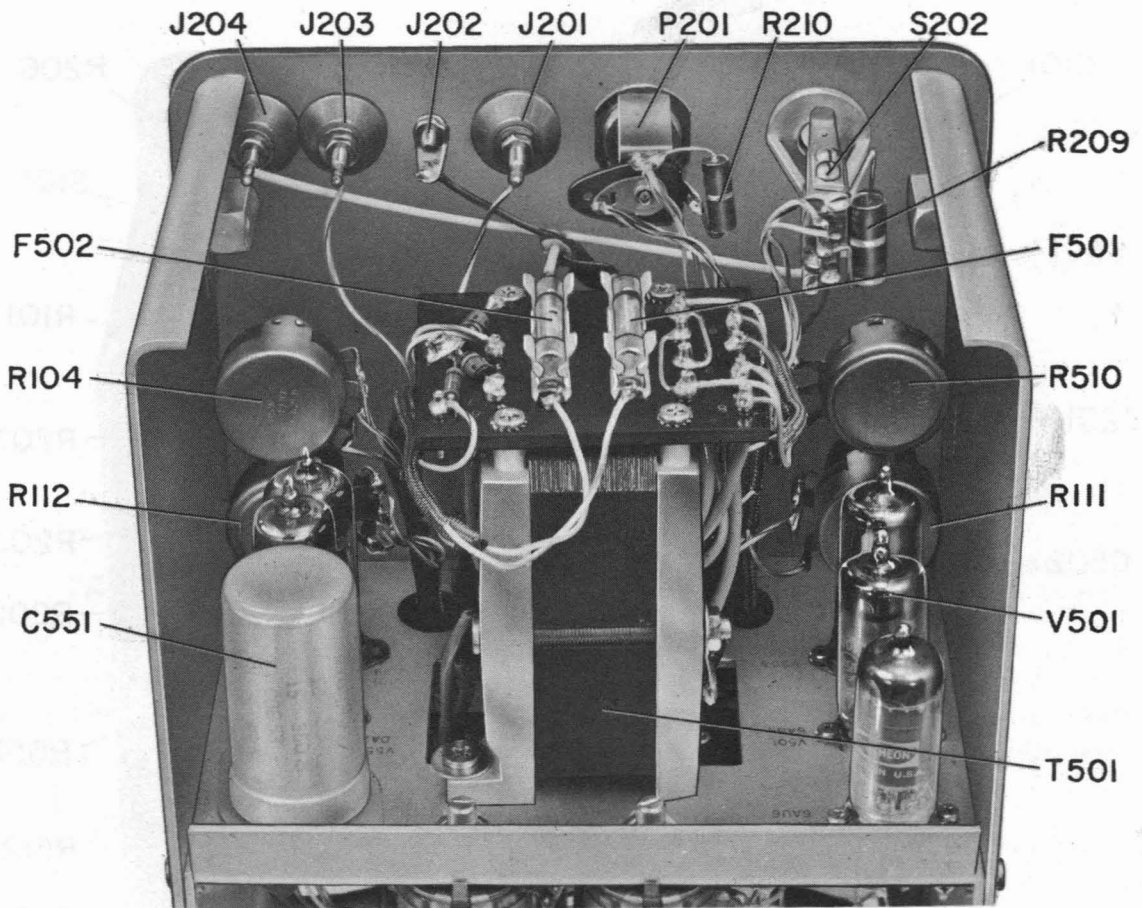

Figure 5-1. Top interior view of the Type 1862-C.
- a. Remove V501, a type 6AB4 tube (see Figure 5-1).
**5.4.3 VOLTAGE ADJUSTMENTS.** The voltage between the + UNKNOWN terminal and the GUARD terminal should be set to 501 volts for the 500-volt test voltage and to 102 volts for the 100-volt test voltage. The 500-volt adjustment, R510, is available on the panel (see Figure 5-1) and the 100-volt adjustment, R512, is located at the rear of the internal shelf. A very accurate voltmeter is required. Note that an error in the setting of the 500-volt supply does not directly cause an error in resistance measurements at 500 volts because the CHECK adjustment calibrates the meter at the actual voltage. Also, 100-volt measurements will be correct if the ratio between the two voltages is correct.